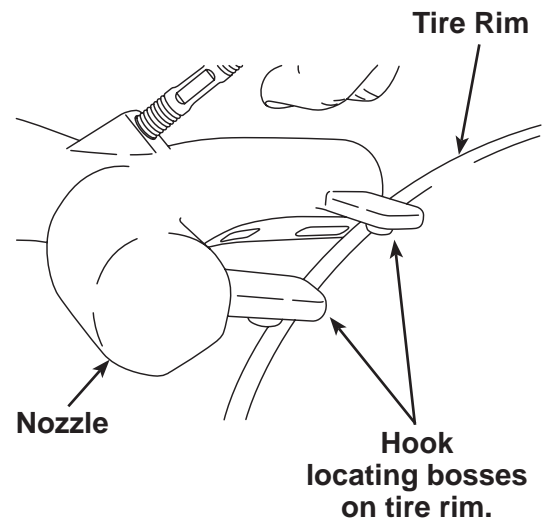

Figure 1
6. Place the nozzle on the wheel, opposite the tire valve, catching the rim with the two locating bosses on the bottom of the nozzle. See Figure 1.